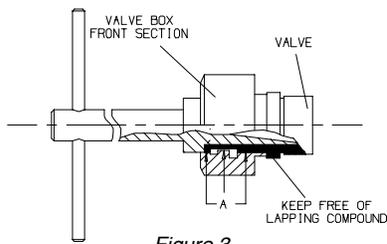

Figure 3
- d. Install the front section of the Valve Box on the Arbor as shown in Figure 3.